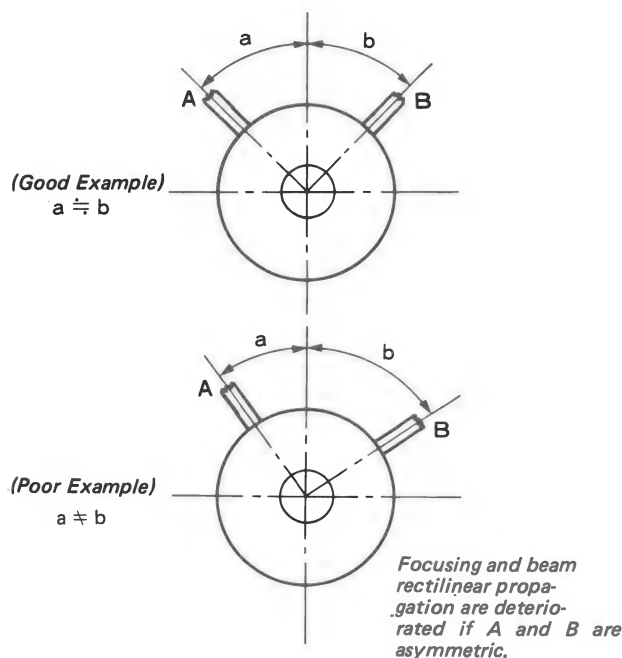

Fig. 3-7
4. Overlap the R and B dots in a vertical direction in the center of the picture using the V·STAT magnet (4-pole ring magnet). (See Fig. 3-7.)